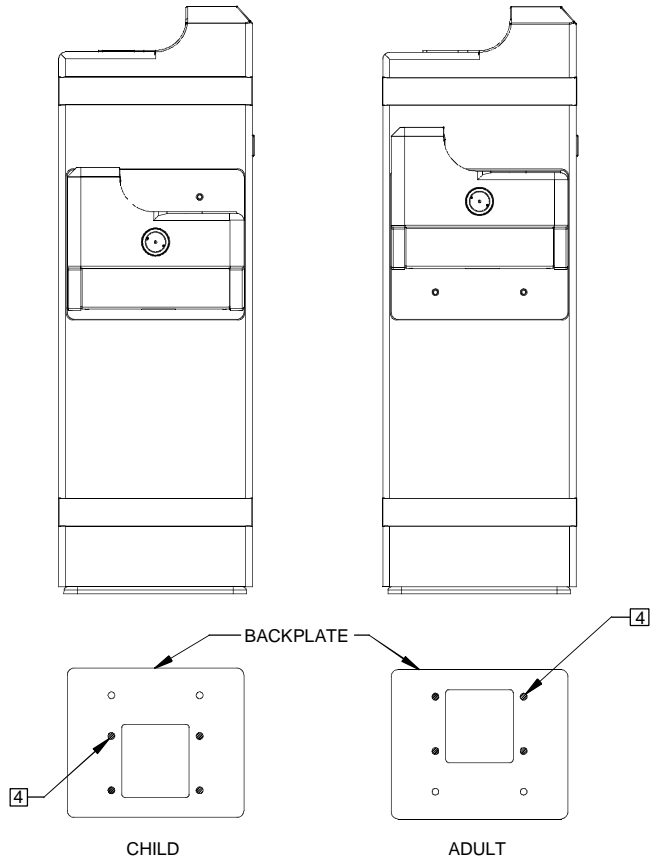

FIGURE 1
③ SIDE ARM IS ADJUSTABLE TO ACCOMMODATE EITHER CHILD OR ADULT HEIGHTS (SEE "AVAILABLE ARM HEIGHTS" CHART).
④ BASED ON DESIRED HEIGHT (CHILD OR ADULT) OF ARM, ORIENT BACKPLATE AS SHOWN IN FIGURE 1 AND USE APPROPRIATE SHADED HOLES.
⑤ WASTE ASSEMBLY IS SUPPLIED DISASSEMBLED. THE SHORTER OF THE TWO PIECES IS FOR THE ARM DRAIN, AND MUST BE INSTALLED SO THAT ANY BEND IN THE FLEX TUBING WILL ALLOW WATER TO DRAIN COMPLETELY. THE LONGER IS FOR THE PEDESTAL DRAIN AND IS SUPPLIED AT THE LENGTH REQUIRED TO ASSEMBLE THE UNIT WITH THE ARM AT CHILD HEIGHT. IN ORDER TO ASSEMBLE AT ADULT HEIGHT, 3" MUST BE CUT FROM THE END OF THE FLEX TUBING PRIOR TO ASSEMBLY. TEE IS TO BE GLUED TO THE FLEX TUBING WASTE ARMS USING PVC PIPE CEMENT.